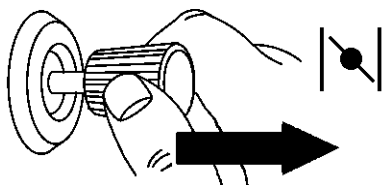

Figure 8. Choke Knob (Closed Position)
2. Pull the choke knob out to the CLOSED position (Figure 8).